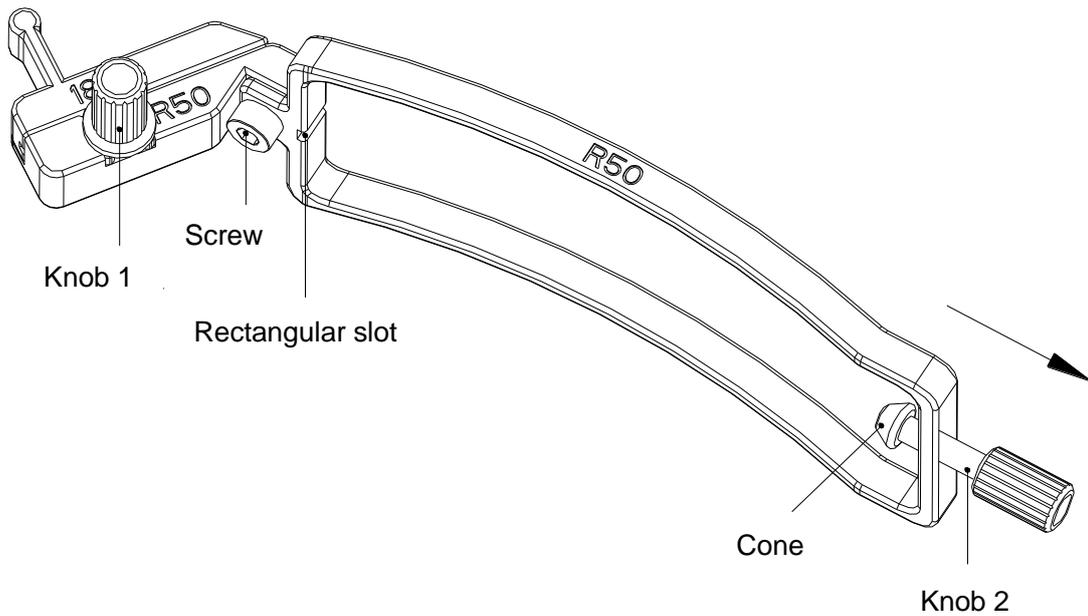

Figure 6-28 Structure of Needle Guide Bracket Kit
Step 1: Take needle guide bracket kit out from the package and check it carefully for any damage. Identify the appropriate needle guide bracket kit (for the unique matching needle guide bracket kit of each probe, see Table 3-1 Needle Guide Bracket Kits of the user manual). The structure of needle guide bracket kit is shown in Figure 6-28.
Step 2: Check if the screw and knob 1 come loose. If so, fasten the screw with an inner hexagon spanner, and fix the knob 1 with fingers; turn the knob 2 counterclockwise until it stops (with normal force), as the arrow direction shown in Figure 6-28.